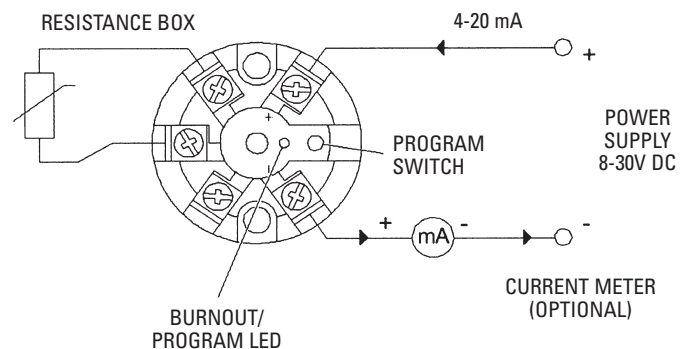

Figure 4
4.2 Method (See Figure 4)
1. Connect circuit as shown in Figure 4 and set the Resistance Box for temperature required at 4 mA.